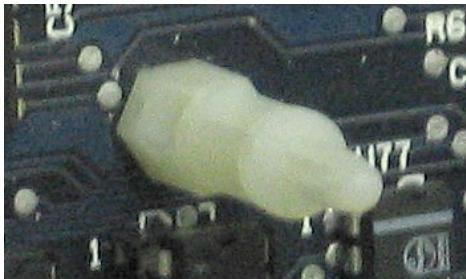

Fig. 7: Photo of one of the two white nylon snap-lock standoffs located at the upper-left of the PC motherboard.
WARNING 	The risk of a serious electrical shock exists if the wiring harness power connector is removed from the Super Two circuit board, but AC power remains live at the AC Input Terminal Block (see Figure 7, page 15).
6. Find the two existing white nylon snap-lock standoffs on the upper-left of the PC board (see Fig. 7). Be sure they are straight (these standoffs may have bent over time).